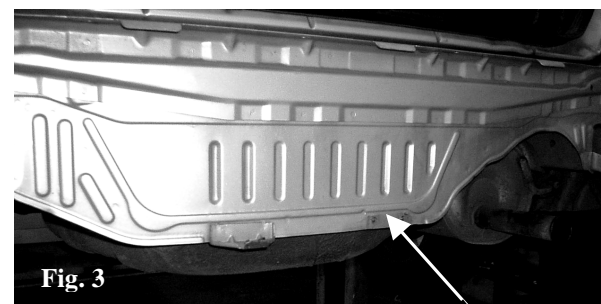

Fig. 3
5. From rear part of car body remove bumper handle (on the right side) – see fig. 3.